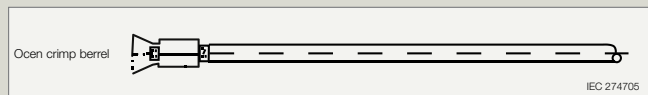

Fig. 2 - Wire crimped onto PIN
1. A **metallic contact known as a PIN** (fig. 4) made of tin-plated copper and formed using a moulding technique. It has two wings necessary to anchor it to the electric wire. This is done by crimping or mechanically, using matrix **IS3153-IS3154** in the relevant pliers **UMCT3149**, which, by bending the wings on the metallic core of the photovoltaic wire (figs. 2, 3), ensures correct and safe anchoring in accordance with **CEI EN 60352-2**. Perfect insulation of the metallic contact can be further guaranteed by placing caps **IS51400** and **IS52400**